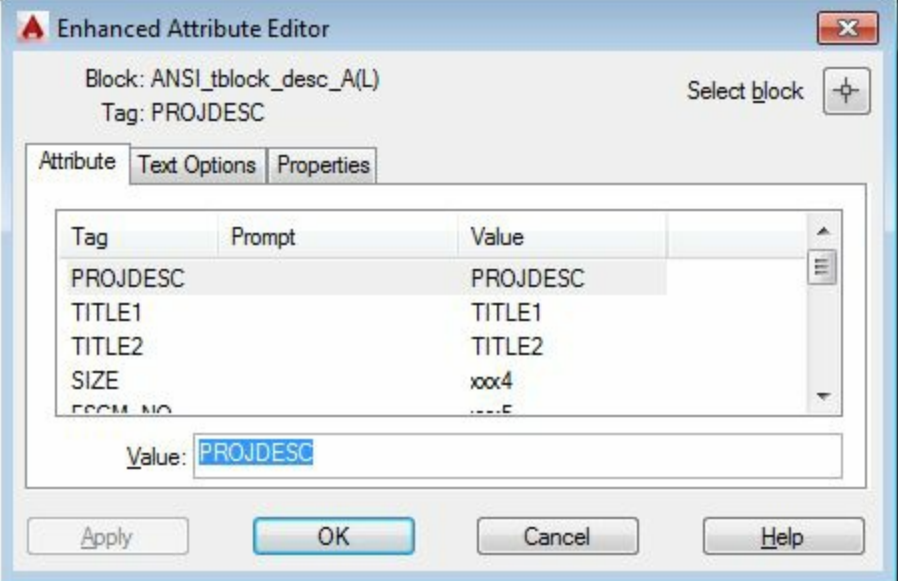

Figure-52. Enhanced Attribute Editor dialog box
- Double-click on the title block at the bottom right corner. The **Enhanced Attribute Editor** dialog box will be displayed; refer to Figure-52.